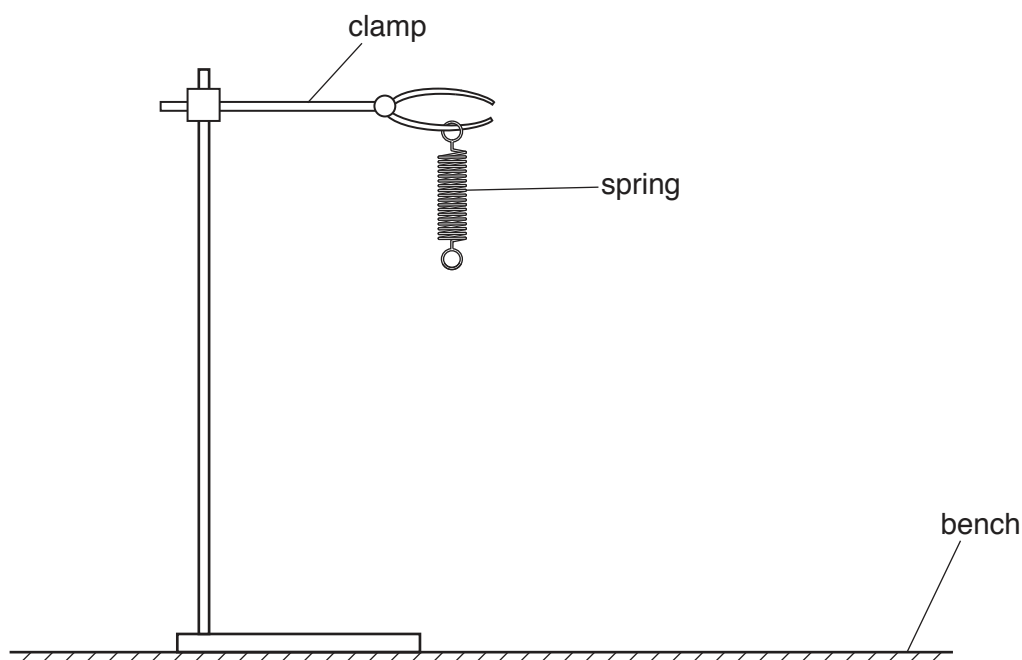

Fig. 3.1
1. The apparatus is to be set up for candidates as shown in Fig. 3.1. The spring is to be sufficiently high above the bench so that when the 5.0 N load is hung on the spring, the bottom of the load is approximately 10 cm above the surface of the bench. Ensure that the spring is held tightly in the clamp.